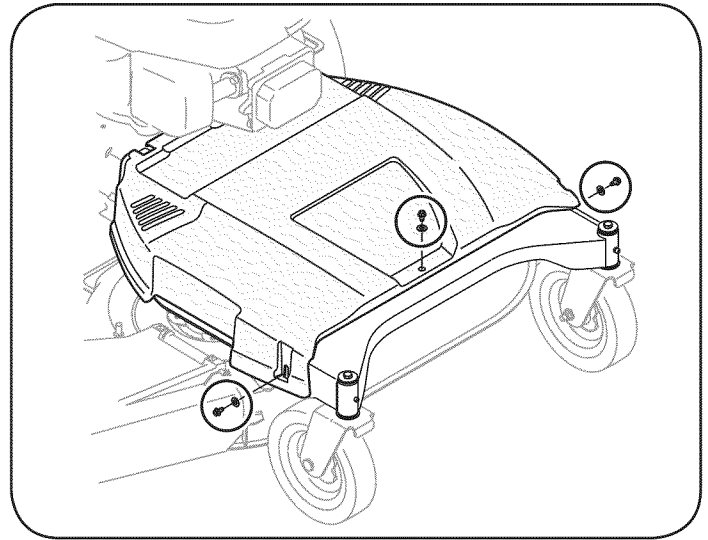

Figure 19
1. Remove the belt cover by removing the three screws and washers which secure it to the frame. See Figure 19.